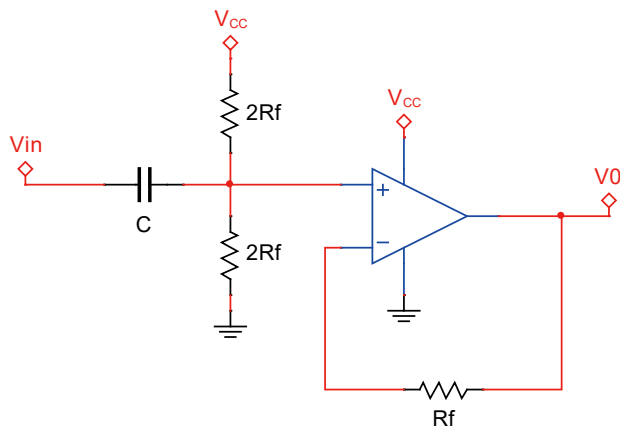

Figure 1. Isolation Circuit
- 1) When the module output signal meets the requirements, add an isolation circuit before AD sampling, as shown in Figure 1.